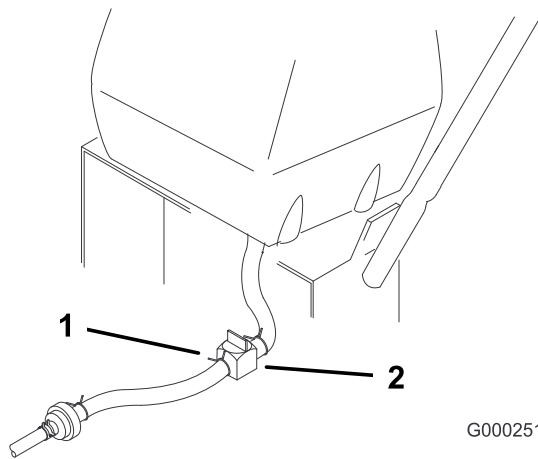

Figure 35
2. Close the fuel shut-off valve at the fuel tank (Figure 35).
3. Squeeze the ends of the hose clamp together and slide it up the fuel line away from fuel filter (Figure 35).
4. Pull the fuel line off the fuel filter (Figure 35). Open the fuel shut-off valve and allow the gasoline to drain into a gas can or drain pan.
7. Open fuel shut-off valve at fuel tank (Figure 35).
3. Close fuel shut-off valve at fuel tank (Figure 35).